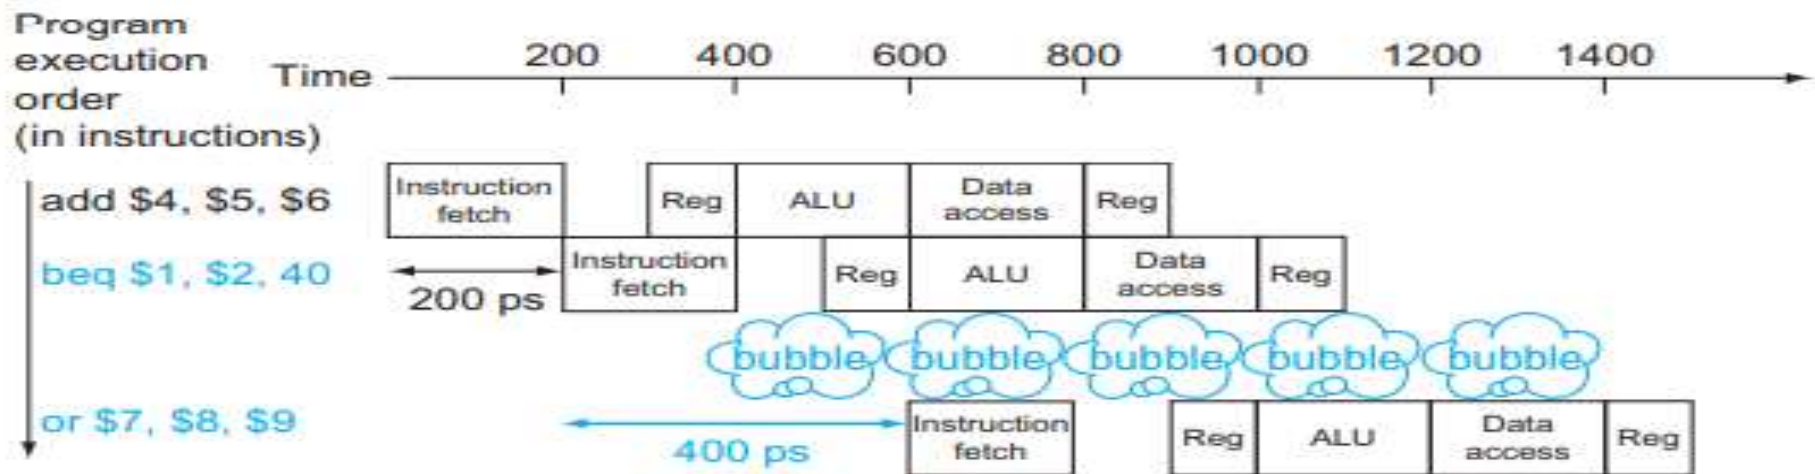

FIGURE 31 Pipeline showing stalling on every conditional branch as solution to control hazards.
- Even with this extra hardware, the pipeline involving conditional branches would look like Figure 31.